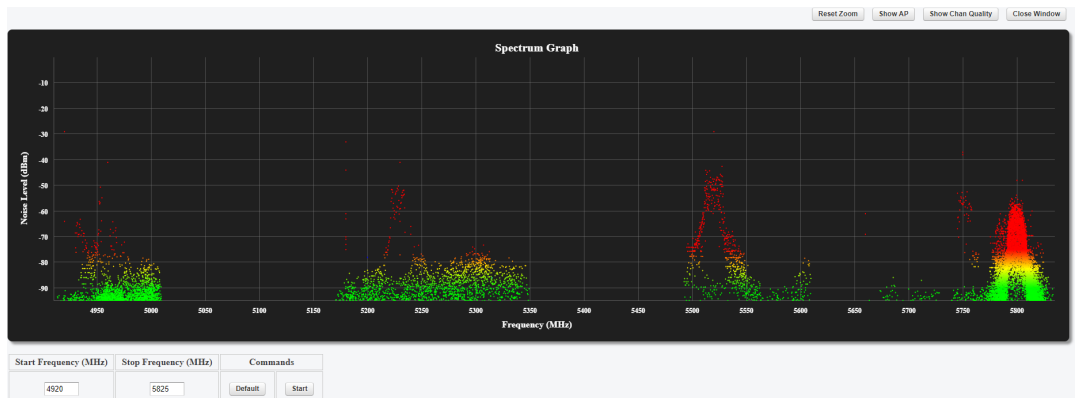

Figure 26. Spectrum Graph window (typical display)
- The **Spectrum Graph** window will open in a new web browser tab (Figure 26 (page 71)).